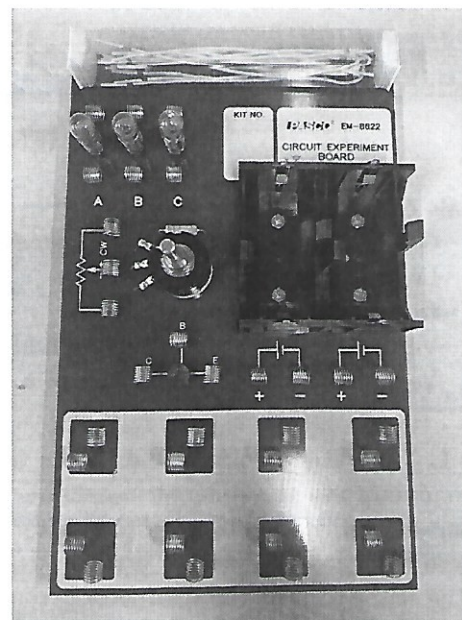

Fig. 3. Circuit board.
–Circuit board, including light bulbs and rheostat (or potentiometer) (see Fig. 3).